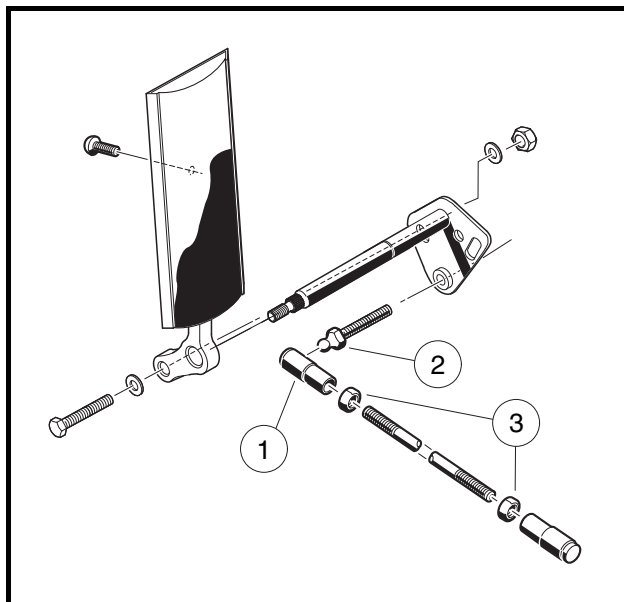
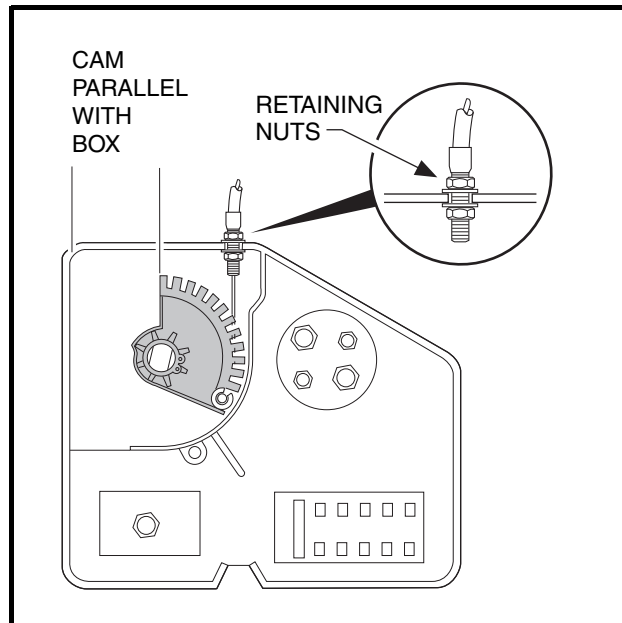
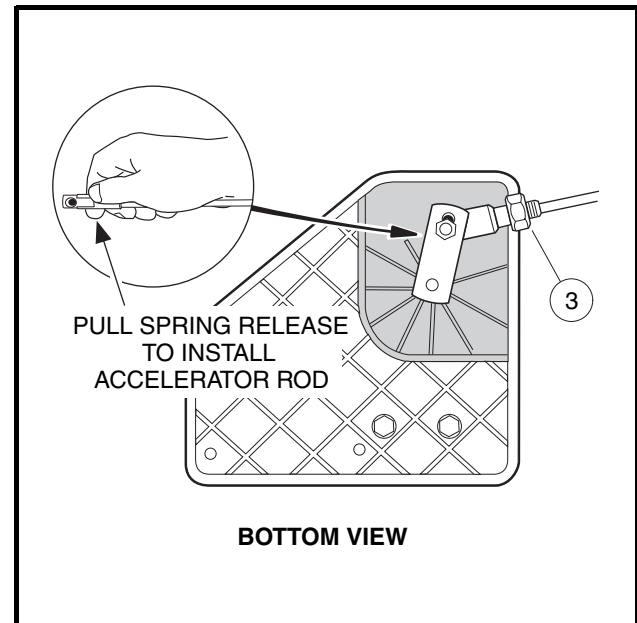

Figure 14-4 Accelerator Rod
Figure 14-5 Cam Position
Figure 14-6 Accelerator Rod
2. Disconnect the ball joint (1) from the ball stud (2) on the accelerator pedal (**Figure 14-4, Page 14-6**) and from the bell crank at the electrical box (**Figure 14-6, Page 14-8**).
3. Install the ball joint on the ball stud at the accelerator pedal (**Figure 14-4, Page 14-6**).
6. With the ball joint jam nuts (3) loose (**Figure 14-4, Page 14-6**), adjust the length of the accelerator rod so the indicated cam edge is parallel with the edge of the electrical component box (**Figure 14-5, Page 14-8**). **See following CAUTION.**
7. Install the accelerator rod on the bell crank ball joint on the electrical component box (**Figure 14-6, Page 14-8**). **See following CAUTION and NOTE.**
4. Remove the electrical component box cover and loosen the cable housing retaining nuts (**Figure 14-5, Page 14-8**).
5. Disconnect cable from cam in the electrical component box (**Figure 14-5, Page 14-8**).
2. Insert the cable housing into the mounting slot in the wall of the electrical box, with approximately the same number of threads visible between the jam nuts as are visible from the nut inside the box to the end of the cable housing (**Figure 14-5, Page 14-8**). Tighten the nuts finger-tight.
5. To reduce RPM, loosen the accelerator cable retaining nut on the outside of the electrical box wall and tighten the retaining nut on the inside of the wall until the specified RPM is reached (**Figure 14-5, Page 14-8**). To increase RPM, loosen the cable retaining nut inside the electrical box and tighten the nut outside the box until the desired RPM is reached.